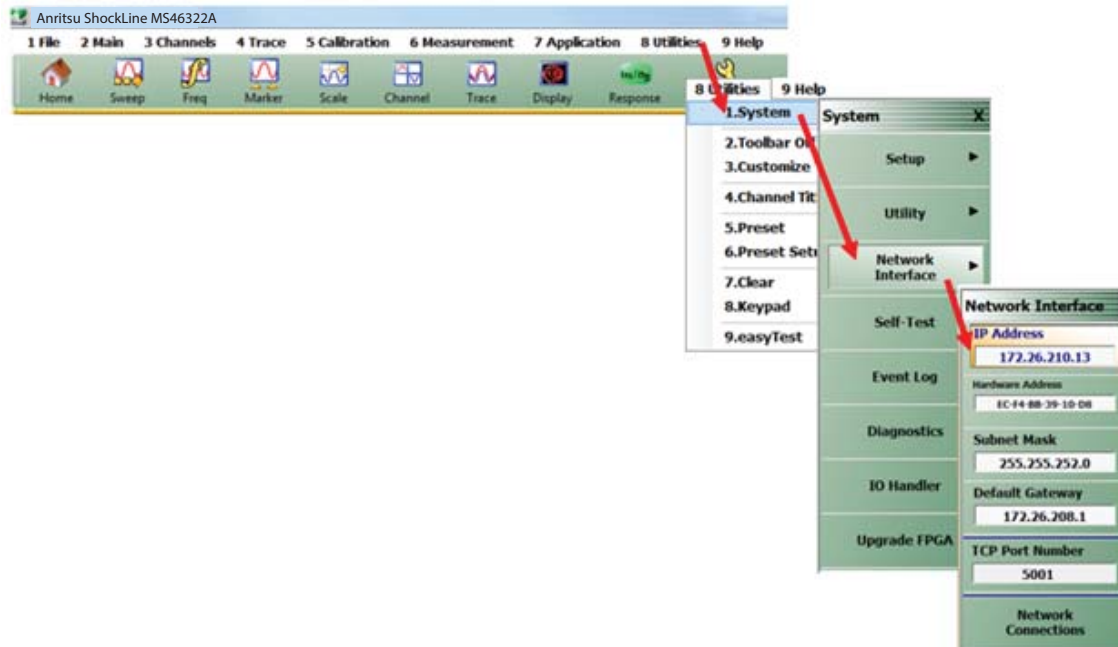

Figure 1-10. IP Address Menu Navigation Path
9. Navigate to the IP Address in the Network Interface menu. See Figure 1-10.